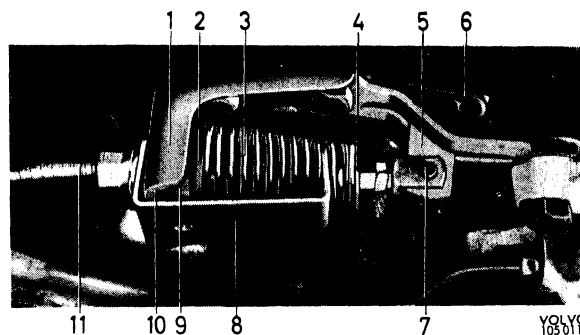

Fig. 5-83. Fitting spring tool
3. Check that the brake pads are not stuck to the brake disc. To prevent the lever when adjusting from influencing the shoes and thus give misleading results, the spring tension acting on the lever should be reduced. This can be done by fitting holder SVO 2742 (Fig. 5-83) or by disconnecting the cable from the lever.
- Place holder SVO 2742 so that the return spring is held in position according to Fig. 5-83. Bend up the lock and remove the lock pin so that the cable releases from the lever.
- Fit on new rubber cable guides for the the cable suspension. Place the cable in position in the rear attachment and tighten the nut. Fit the washers and return spring. Compress the spring with the help of the holder tool, see Fig. 5-83. Oil the lock pin and fit it together with the cable on the lever. Fit the attachment and rubber cable guide on the frame member.